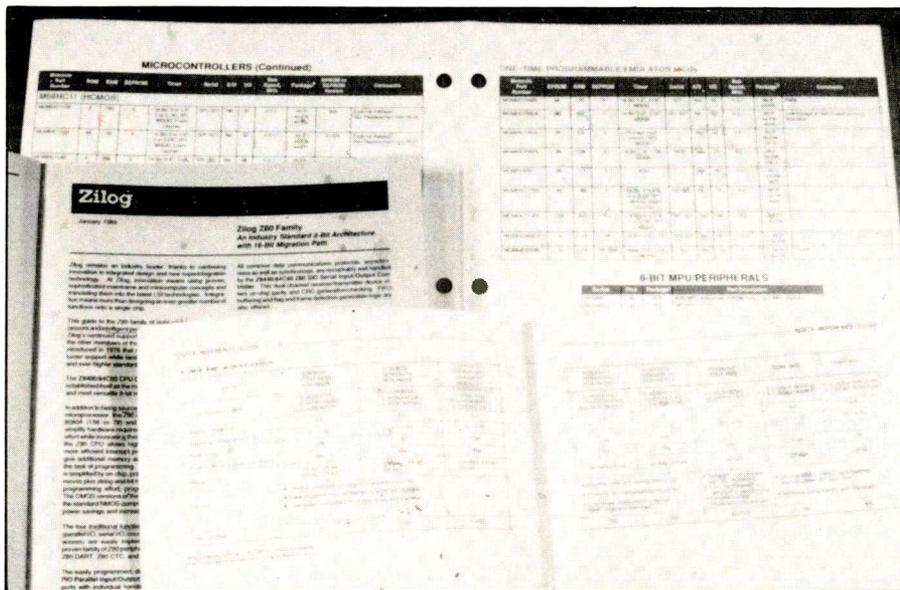

Fig. 4. Some data books include examples of hardware designs and programming code, which you can use or adapt in your own designs.
*How helpful is the documentation?* Complete, helpful and easy-to-understand data books and application notes are priceless. Hardware and software examples like those shown in Figure 4 are especially valuable as models for similar designs of your own and can save you hours of development time and effort.